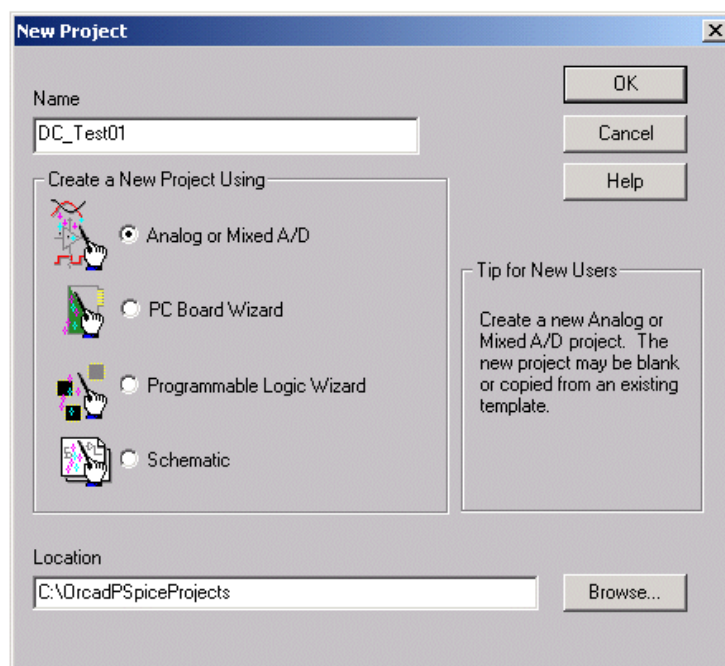

Fig. 1.
1. Before you can draw a diagram of a circuit to be analysed, you must create a PSpice project. First, create a folder `c:\OrcadPSpiceProjects` on your hard drive to hold your circuit files (you may also create a subdirectory for each circuit). Then, start Capture and use the **File -> New -> Project** command to bring up the window shown in Fig. 1. Type the project name: `DC_Test01`. Then, check the **Analog or Mixed A/D** option, type the name